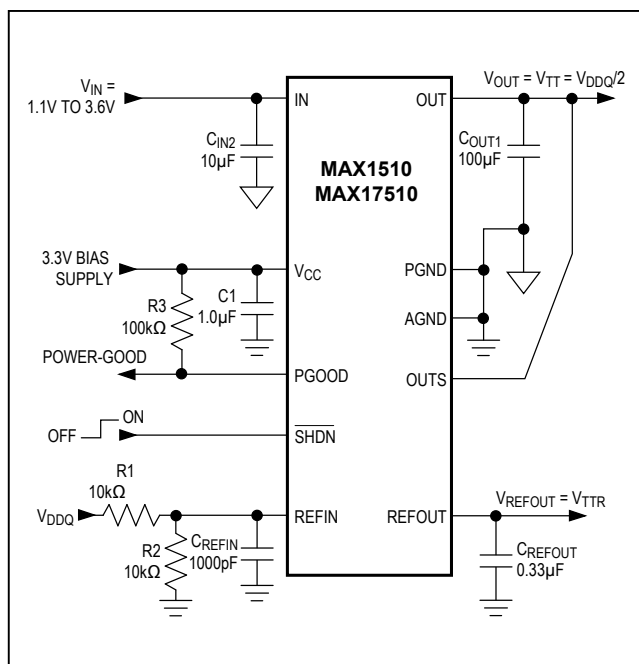

Figure 1. Standard Application Circuit
( $V_{IN} = 1.8V$ ,  $V_{CC} = 3.3V$ ,  $V_{REFIN} = V_{OUTS} = 1.25V$ ,  $\overline{SHDN} = V_{CC}$ , circuit of Figure 1,  $T_J = T_A = -40^\circ C$  to  $+85^\circ C$  for MAX1510ETB,  $T_J = T_A = -40^\circ C$  to  $+125^\circ C$  for MAX17510ATB, unless otherwise noted. Typical values are at  $T_A = +25^\circ C$ .) (Note 1)
( $V_{IN} = 1.8V$ ,  $V_{CC} = 3.3V$ ,  $V_{REFIN} = V_{OUTS} = 1.25V$ ,  $\overline{SHDN} = V_{CC}$ , circuit of Figure 1,  $T_J = T_A = -40^{\circ}C$  to  $+85^{\circ}C$  for MAX1510ETB,  $T_J = T_A = -40^{\circ}C$  to  $+125^{\circ}C$  for MAX17510ATB, unless otherwise noted. Typical values are at  $T_A = +25^{\circ}C$ .) (Note 1)
(Circuit of Figure 1.  $T_A = +25^\circ\text{C}$ , unless otherwise noted.)
The MAX1510/MAX17510 are low-voltage, low-dropout DDR termination linear regulators with an external bias supply input and a buffered reference output (see Figures 1 and 2). VCC is powered by a 2.7V to 3.6V supply that is commonly available in laptop and desktop computers. The 3.3V bias supply drives the gate of the internal pass transistor, while a lower voltage input at the drain of the transistor (IN) is regulated to provide VOUT. By using separate bias and power inputs, the MAX1510/MAX17510 can drive an n-channel high-side MOSFET and use a lower input voltage to provide better efficiency.
The MAX1510/MAX17510 regulate OUTS to the voltage set at REFIN, making the devices ideal for memory applications where the termination supply must track the supply voltage. Typically, REFIN is set by an external resistive voltage-divider connected to the memory supply (VDDQ) as shown in Figure 1. The maximum output voltage of 1.5V is limited by the gate-drive voltage of the internal n-channel power transistor.